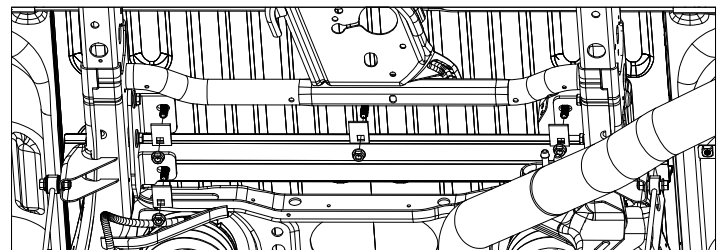

Figure D8: View looking up at the bottom of the truck bed.
9. **Fasten the rear mounting rail.** Install an offset square hole washer and 1/2" flange nut on each of the carriage bolts passing down through the bed, as shown in Figure D8. Do not tighten at this time.